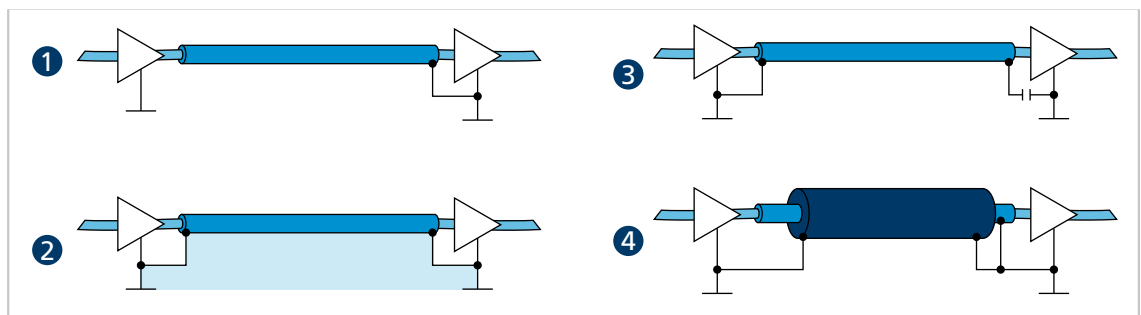

Fig. 29: Various possibilities for the shield connection
- ▶ Lay the motor phases in a shield, separate from the sensor or encoder signals, and connect on at least the motor side (see 1 or 2 in Fig. 29).
The sensor signals can optionally be laid with the motor phases in a shared cable/insulation hose using another outer braided shield. This outer braided shield must be connected at both ends (e.g., 4 in Fig. 29). A solution such as 2 in Fig. 29 is not functional in every case for this configuration. If this is not possible by means of a ground offset, establish the RF connection via specially suited capacitors (e.g., safety capacitors such as Y1/Y2/X1/X2, see 3 in Fig. 29). In this case, do not connect the shield multiple times except at the motor connection and controller side.